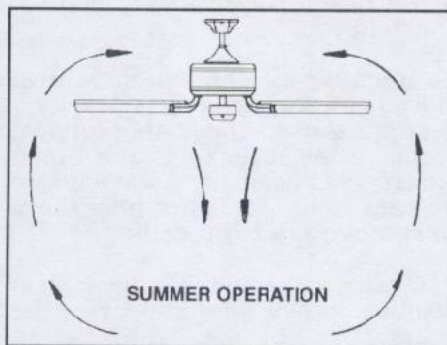

FIG. 18
**Warm weather** - (Clockwise) A downward air flow creates a cooling effect as shown in (Fig. 18). This allows you to set your air conditioner on a warmer setting without affecting your comfort.